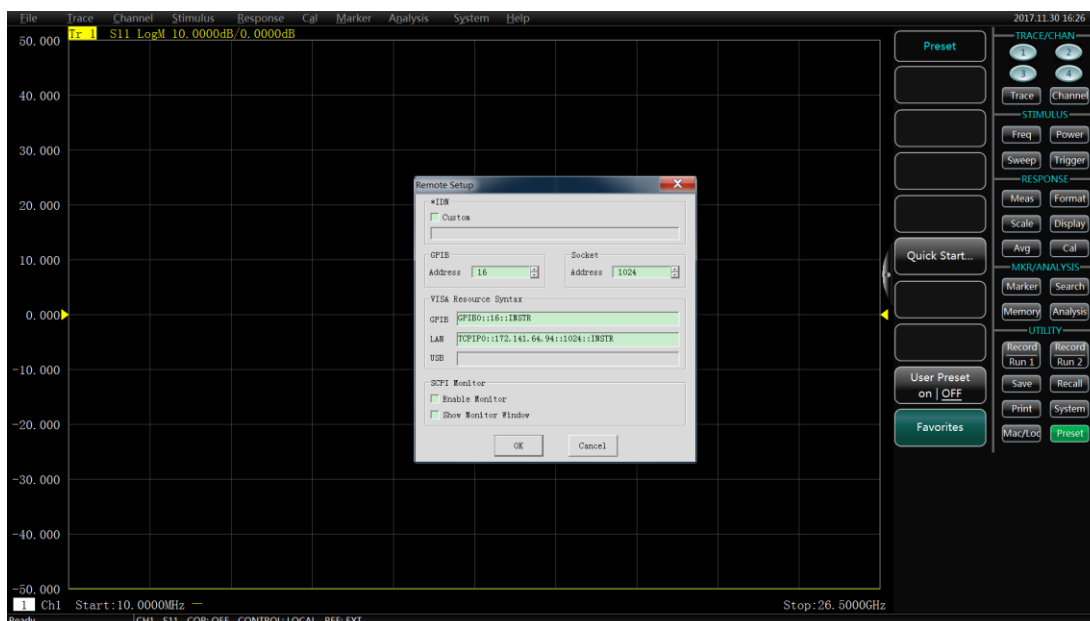

Fig. 2.11 GPIB Interface Setting
Press [System] > [Configuration] > [GPIB address (G)...] to enter the interface shown in Fig. 2.11. Modify the GPIB address in the [Local GPIB address] input box through the keyboard and mouse or number keys of the front panel.